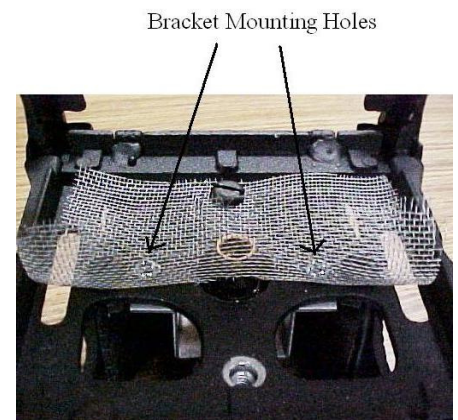

Figure 2
8. Install the quick-connect holding bracket by drilling (2) 3/16" access holes in the base of the gaslight, using the bracket as a template (See Figure 2).